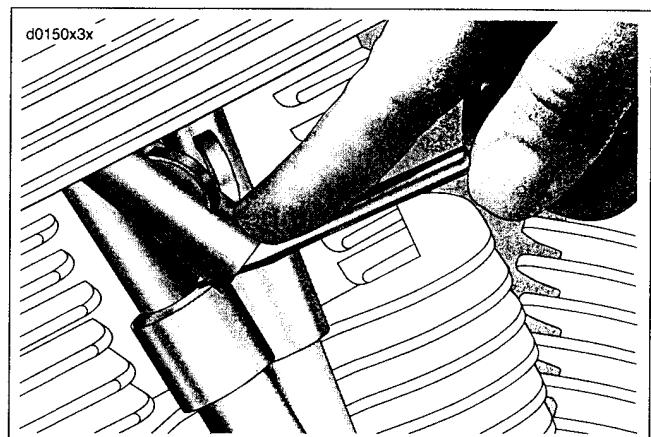

Figure 3-47. Install Spring Cap Retainers
- d. See Figure 3-47. While simultaneously depressing spring cap with tip of screwdriver, use forefinger to slide bottom edge of spring cap retainer down shaft towards tip of screwdriver blade. As spring cap reaches its full length of travel, spring cap retainer should be in approximate position against upper pushrod cover.